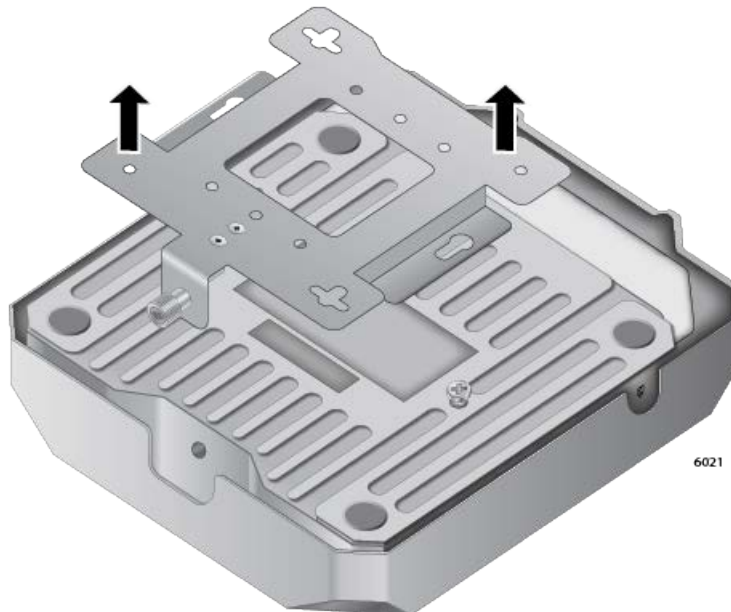

Figure 17. Removing the Mounting Bracket from the Access Point
4. Slide the mounting bracket forward and remove it from the access point. See Figure 17.